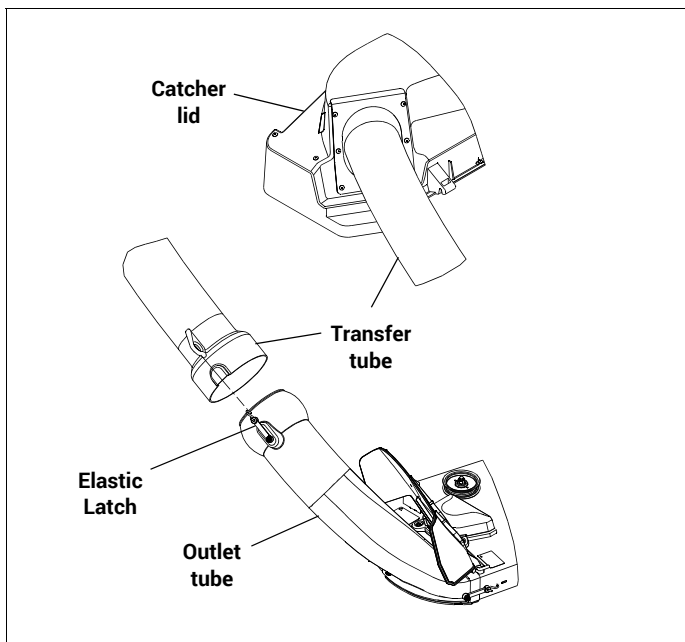

Figure 3-12
14. Slide the end of the transfer tube into the opening in the catcher lid. Figure 3-12